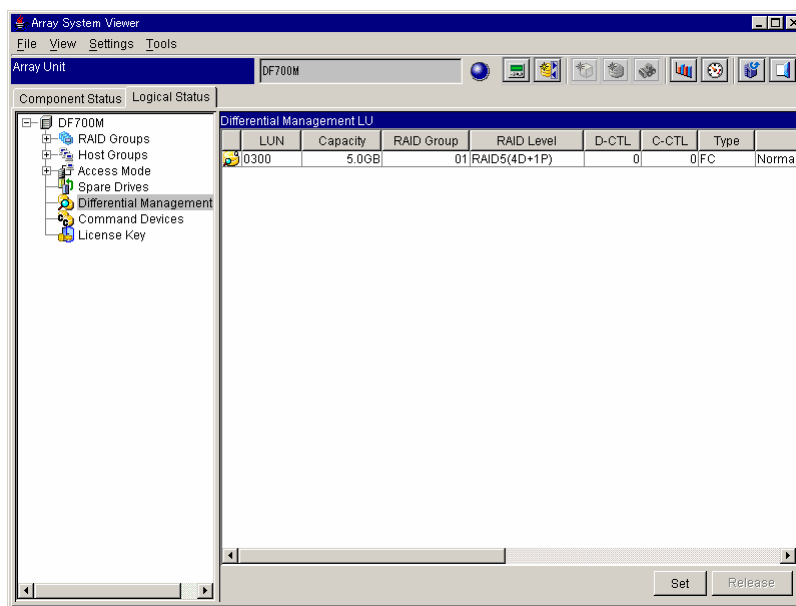

Figure 4.23 Differential Management LU Set
7. The **Logical Status** tab will display the changes (see Figure 4.23)